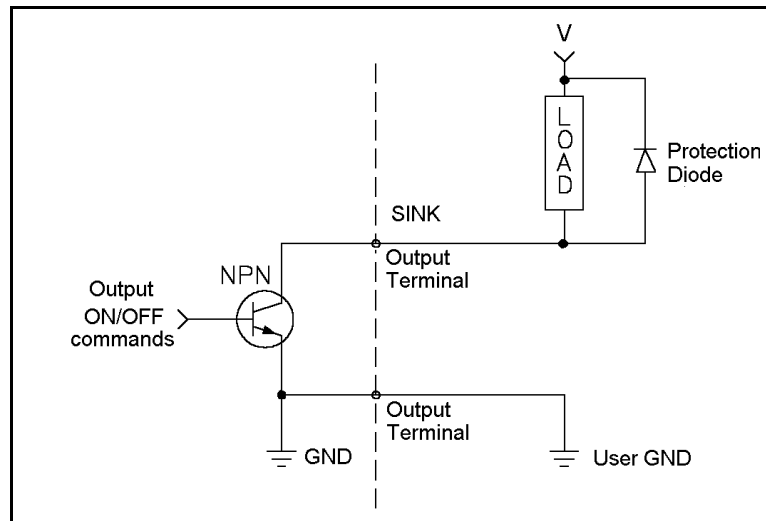

Figure 3-8: Open Collector Output: NPN Mode
- OFF is defined as 0 volts (refer to Figure 3-8)